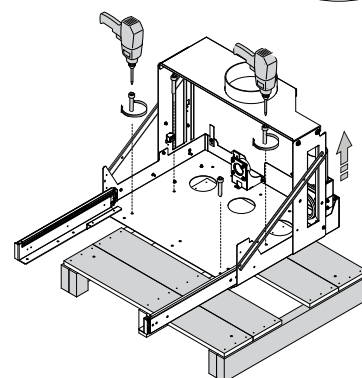

Fig. 6.1.6
11. Remove the pallet fixing screws from the base and remove the pallet (Fig. 6.1.6).